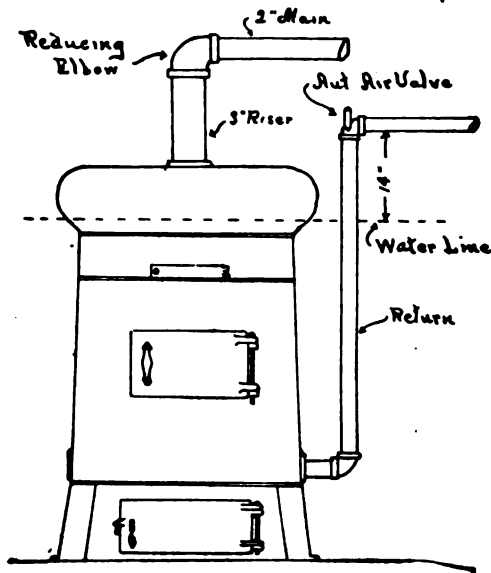

Fig. 40.—Showing Difference of 14 Inches in Water Line.
it may be less or must be greater. Many heating engineers demand a distance of 30 inches between the end of main and the water-line. Fig. 40.
A. The risers out of boiler should be from 30 to 50 per cent. greater in area than the mains which they feed. Fig. 40.